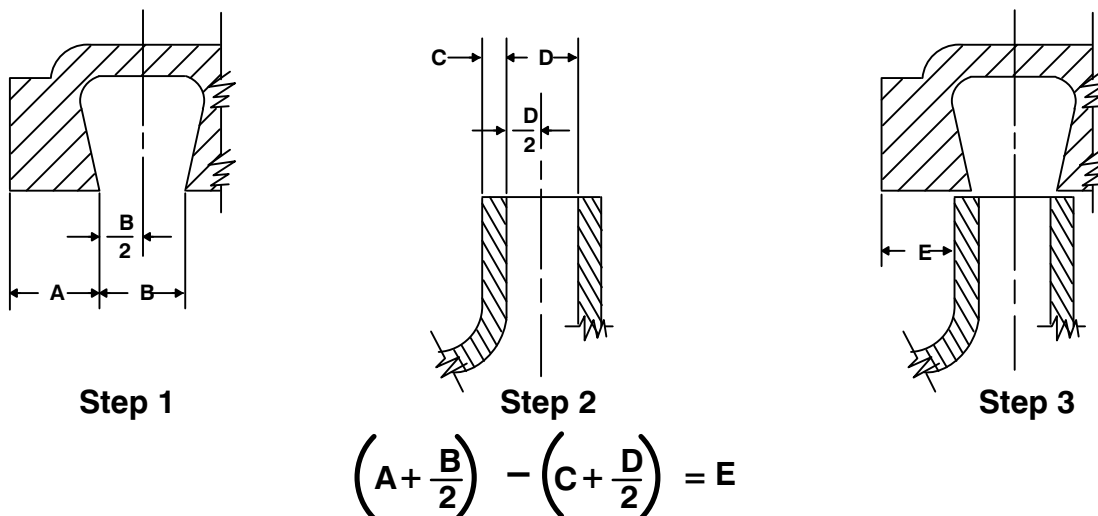

Figure 4. Centering Impeller Within Volute Scroll
To verify the impeller positioning, measure the pump casing and impeller as shown in Figure 4. Use these measurements to calculate the required impeller location (dimension E). Add or remove impeller adjusting shims (51) until dimension E is obtained.